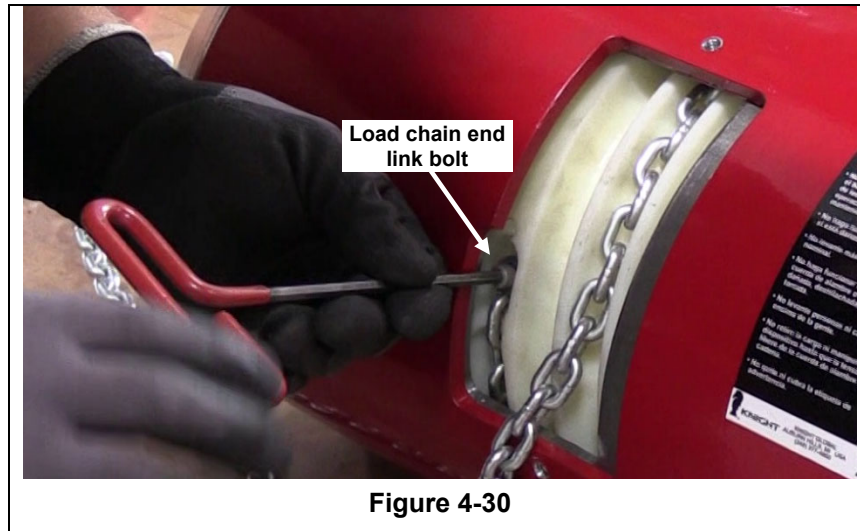

Figure 4-30
Step 15. Align the new load chain end link into the spool chain seat and reinstall MG-1 end link bolt and washer into the chain and spool and tighten until snug. (See Figure 4-30)